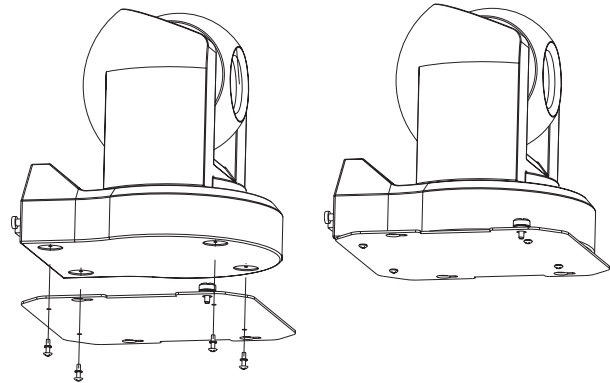

Figure 4
- 1 Install the Sony BRC300 pan/tilt onto the quick release bracket using the (4) screws provided with the camera (Figure 4).